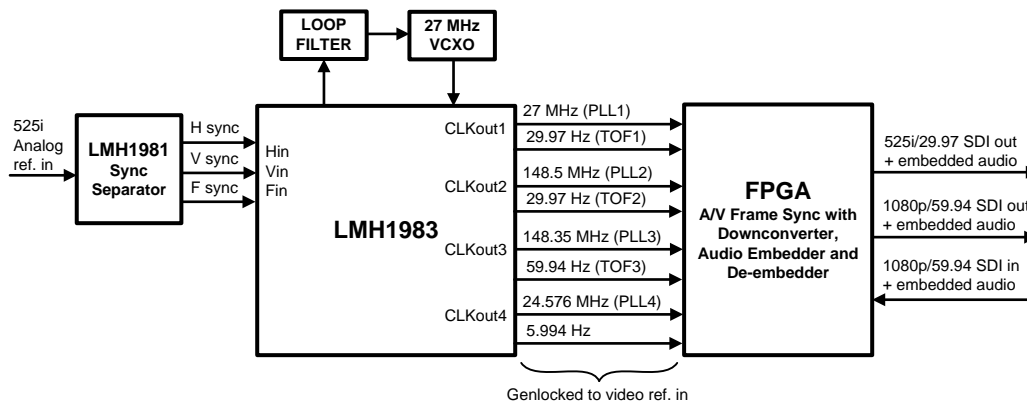
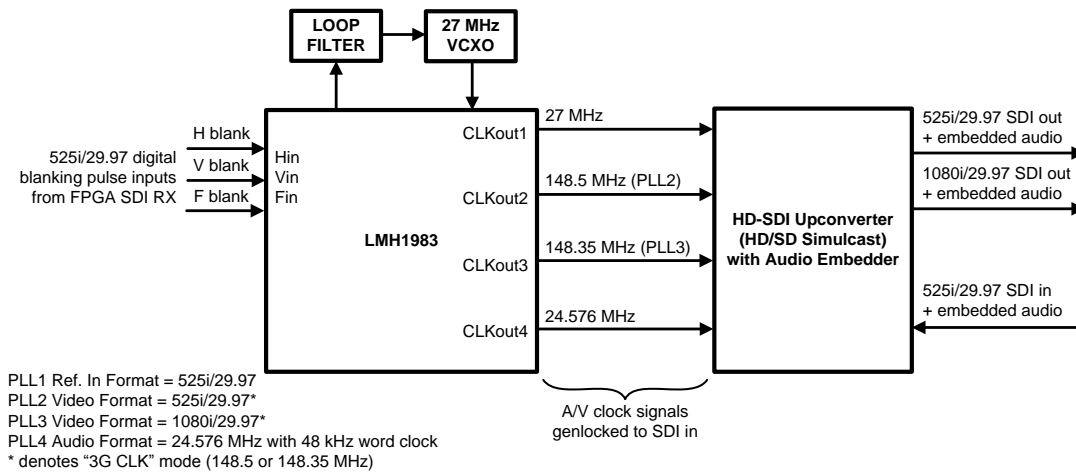

Figure 22. LMH1983 Video Genlock Timing Generation for A/V Frame Synchronizer
Figure 23. LMH1983 Video Timing Generation for HD-SDI Up-Conversion with Audio Embed/De-embed
The LMH1983 is commonly used with Hsync, Vsync, and Fsync timing signals as a reference for genlock. Once these signals are provided, the LMH1983 can produce a specific set of clock output signals required by a downstream endpoint. In some video applications, a multi-format video sync separator is used to derive the Hsync, Vsync, and Fsync signals from a standard analog SD/ED/HD video signal. In Figure 22, a LMH1981 multi-format sync separator is used to provide  $H_{IN}$ ,  $V_{IN}$ , and  $F_{IN}$  for the LMH1983. In this case, LMH1983 PLLs 1-4 provide a 27 MHz/29.97 Hz, 148.5 MHz/29.97 Hz, 148.35 MHz/59.94 Hz, and 24.576 MHz/5.994 Hz output, respectively, to an A/V Frame Synchronizer. Another example of this application can be seen in Figure 23, where  $H_{IN}$ ,  $V_{IN}$ , and  $F_{IN}$  signals are provided directly from an FPGA SDI RX without a sync separator. In the latter example, the NTSC 525i/29.97  $H_{IN}$ ,  $V_{IN}$ , and  $F_{IN}$  parameters are provided individually for the LMH1983, after which the LMH1983 provides 3G, 3G/1.001, and Audio Clock Generation.
Once PLL1 has genlocked to the chosen NTSC, 525i input reference signal, PLLs 2-3 can be set according to the desired output signals specified in Figure 23. Refer to Table 6 and Table 7 for a list of possible input and output formats available for auto-format detection in Figure 22 and Figure 23, respectively. The format code can be applied as an expected input format for PLL1 (Register 0x20) or a programmed output format for PLL2 (Register 0x07) and PLL3 (Register 0x08).
Table 6. Relevant Auto-Format Detection Codes for Figure 22
**Table 7. Relevant Auto-Format Detection Codes for Figure 23**
To ensure correct auto-detection and CLKout signaling desired in Figure 22 and Figure 23, the following SMBus register values should be verified or changed from their default values.
**Table 8. SMBus Register Settings for Figure 22**
**Table 9. SMBus Register Settings for Figure 23**